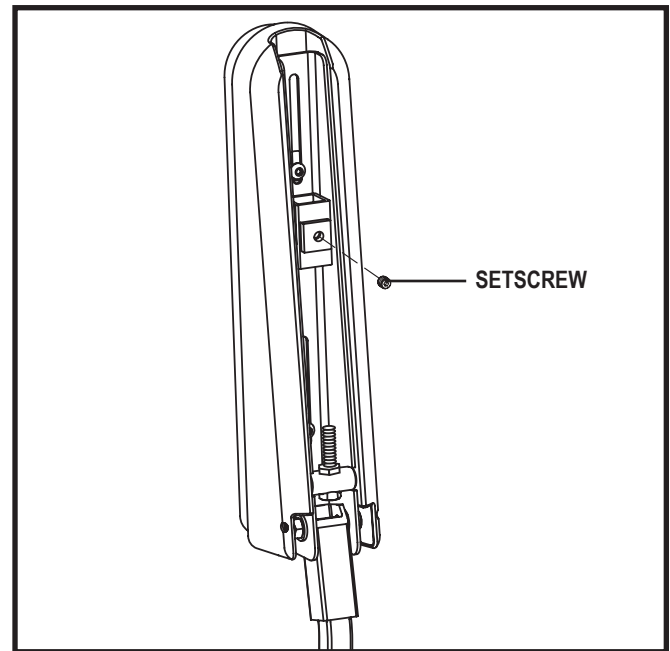

Figure 9. Underside of Armrest
2. Loosen the setscrew on the controller bracket. See figure 9.
5. Loosen the setscrew on the underside of each armrest. See figure 9.